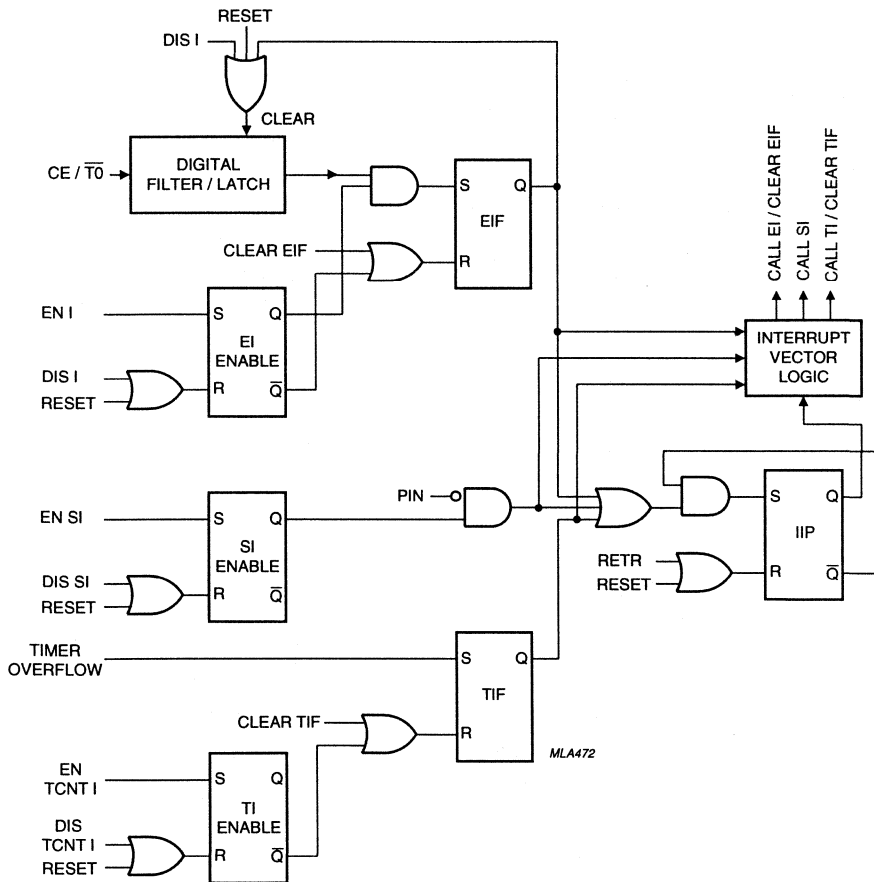

Fig.7 Simplified interrupt logic schematic (the R input overrules the S input for all flags).
An interrupt request is only sensed if the corresponding enable flag is set (see Fig.7). When the request is honoured, the contents of the Program Counter and bits 4, 6 and 7 of the Program Status Word are saved on the Program Counter stack. The Program Counter is loaded with the appropriate interrupt vector, thereby indicating the beginning of the interrupt routine. Since the Accumulator is not automatically saved, it must be saved and restored by user software. The interrupt routine must be terminated by the RETR (return and restore) instruction. At least one instruction of the main program will then be executed before another interrupt routine is entered. To avoid erroneous real-time programs, a few words of caution:
- Subroutines and nested subroutines called from the interrupt routine must all end with RET since RETR clears the Interrupt In Progress flag (IIP), as a side-effect (see Figs 7 and 8). Further pending interrupts would then interfere with the interrupt routine in progress.
A LOW-to-HIGH transition on the  $\overline{CE/T0}$  pin is latched in the digital filter/latch if the HIGH state exceeds 7 clock periods after a LOW state of more than 4 clock periods. If the external interrupt is enabled the External Interrupt Flag (EIF) is also asserted, thus constituting a valid external interrupt request. As soon as the IIP is clear, indicating that no interrupt routine is in progress, the external interrupt is invoked by a forced CALL to location 3. The EIF is simultaneously cleared (see Figs 7 and 8). The interrupt
If the timer/event counter interrupt is enabled, a timer/event counter 1 overflow sets the Timer Interrupt Flag (TIF). As soon as IIP is clear, meaning that no interrupt routine is in progress, the timer/event counter interrupt routine is invoked by a forced CALL to program memory location 7. The TIF is simultaneously cleared (see Figs 7 and 8). Execution of a DIS TCNTI (disable timer/event counter interrupt) instruction cancels a stored interrupt request by clearing TIF.